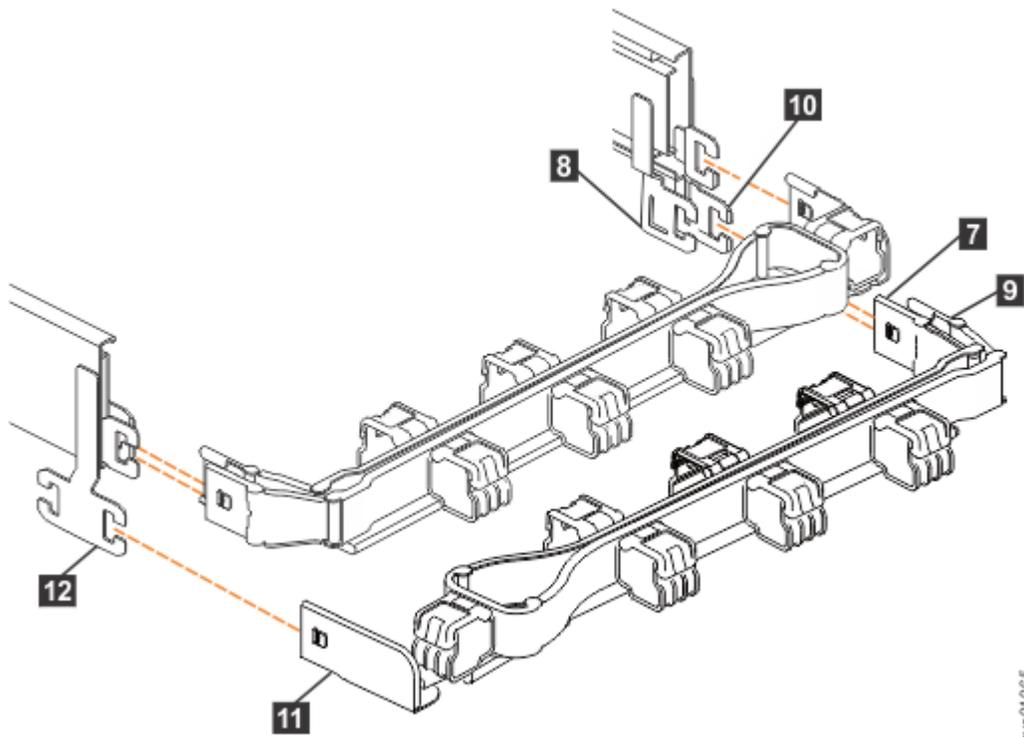

Figure 66. Components of the lower CMA assembly
Note: The procedure for removing the lower CMA assembly is the same as the procedure to remove the upper CMA assembly. However, the connector locations are reversed. For example, the connector base of the upper CMA (5 in Figure 65 on page 65) connects to the right rail. The connector base of the lower CMA (11 in Figure 66 on page 66) attaches to the left rail.
6. Remove the connector base on the lower CMA assembly (11) from the connector on the left support rail (12), as Figure 66 on page 66.
7. Remove the inner connector of the lower CMA assembly (9) from the outer member of the right support rail (10), as shown in Figure 66 on page 66.
8. Remove the outer connector of the lower CMA assembly (7) from the inner member of the right support rail (8), as shown in Figure 66 on page 66.